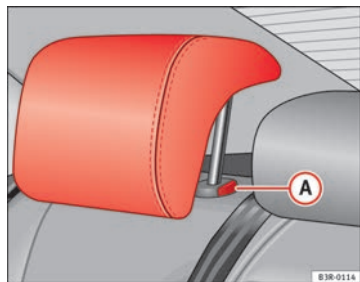

Fig. 112 Outer rear seats: Head restraints
- Press button **(A)** ⇒ fig. 112 and lower the head restraint.
- Press button **(A)** ⇒ fig. 112 and pull out the head restraint.